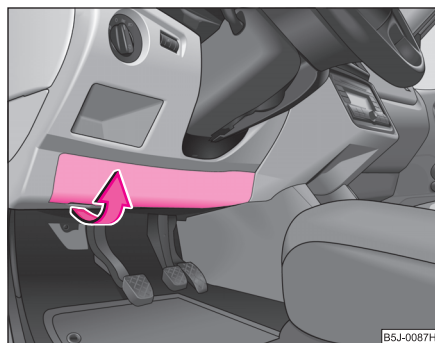

Fig. 166 Bottom side of the dash panel: fuse cover
- Carefully swivel the cover in the direction of arrow and pull it out ⇒ fig. 166.